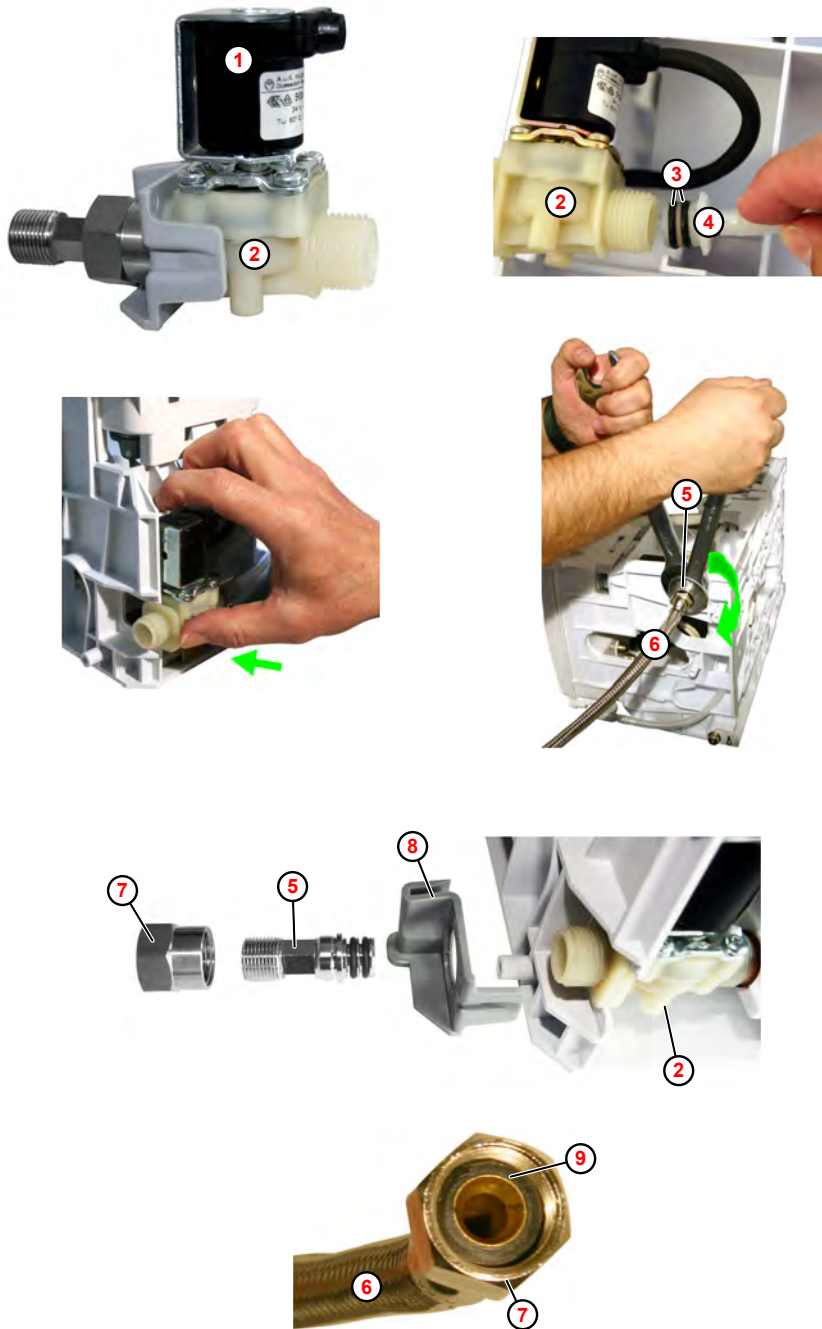

Fig. 21: Solenoid valve assembly
1. Press the coil (Fig. 21 , ①) against the valve body ② while turning it approx. 30° clockwise (to the right) until the coil audibly clicks into place.
2. Clean both O-rings ③ on their connecting nipples ④ using a lint-free cloth.
3. Guide the connecting nipple ④ into the valve ② until it is flush with the valve housing.
5. Attach the fastening element ⑧ to the valve body and housing.
6. Carefully insert the connection adapter ⑤ into the valve body (tight).
7. Screw the union nut ⑦ onto the valve body.
8. Screw the inlet hose ⑥ onto the connection adapter.